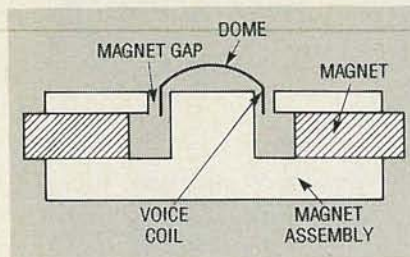

Fig. 3: SIMPLIFIED DOME TWEETER. The dome/voice-coil assembly in the original design was supported by four drops of butyl-rubber compound.
**The Dome Tweeter.** Developed by Edgar Villchur in 1957, dome tweeter designs are currently found in more speaker systems than any other type of high-frequency reproducer. Mr. Villchur, incidentally, was also the founder of Acoustic Research and the developer of the acoustic-suspension speaker system, which also has achieved world-wide acceptance. The dome was the first truly successful attempt to produce a small radiating surface (which ensures good dispersion) that also had substantial power response. (Fig. 3) Unlike a conventional cone diaphragm (which is driven at its apex